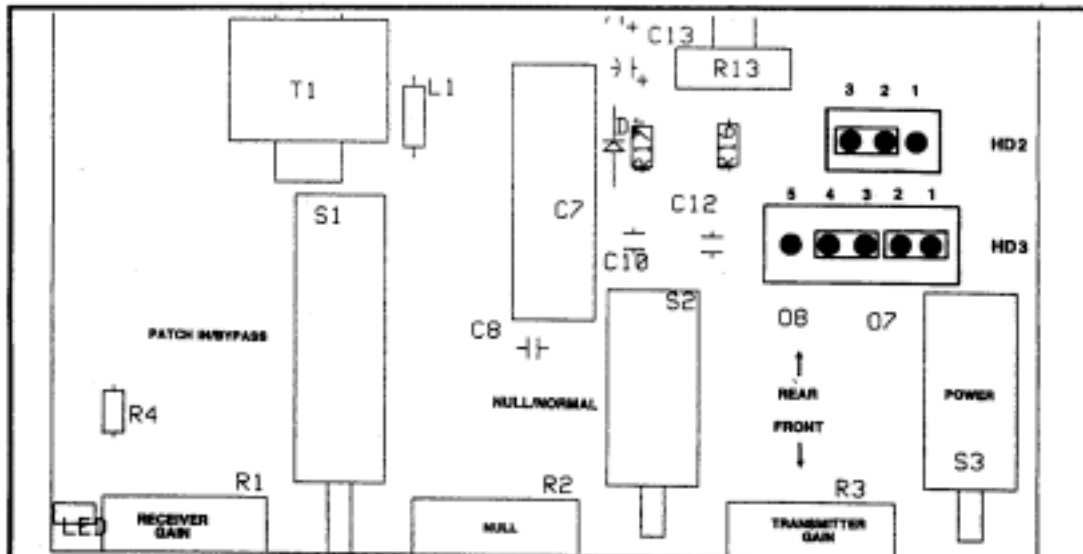

FIGURE 3 - JUMPERS INSTALLED FOR YAESU AND RANGER AR 3500 RADIOS.
1. The Telepatch II was shipped from the factory with Headers HD2 and HD3 set for Kenwood, Icom and Alinco radios. If you have a Yaesu or Ranger 3500 radio, change the shorting clips on HD2 and HD3 according to Figure 3.